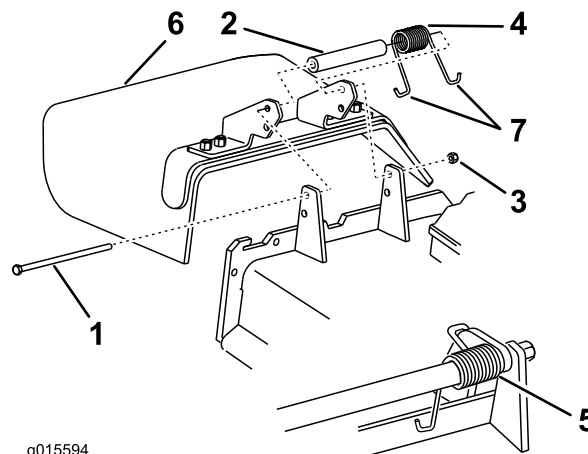

Figure 88
1. Remove the locknut, bolt, spring and spacer holding the deflector to the pivot brackets (Figure 88). Remove the damaged or worn grass deflector.
Note: Make sure one J end of the spring is installed behind the deck edge before installing the bolt as shown in Figure 88.
3. Install the bolt and nut. Place one J hook end of the spring around the grass deflector (Figure 88).